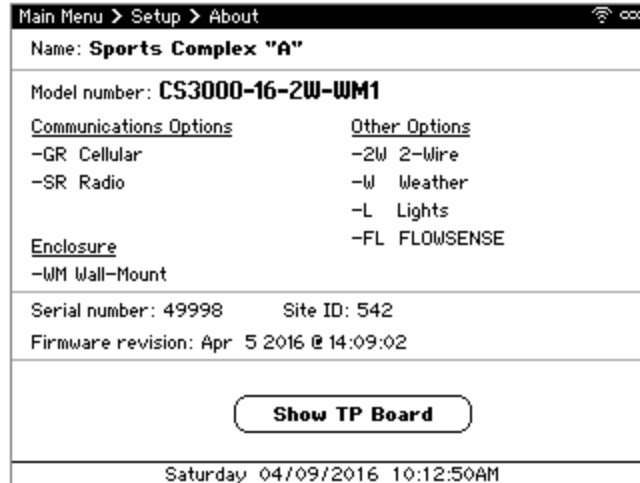

Figure 9 - About screen
2. Navigate to **About** and press **SELECT**. The About screen displays (Figure 9).